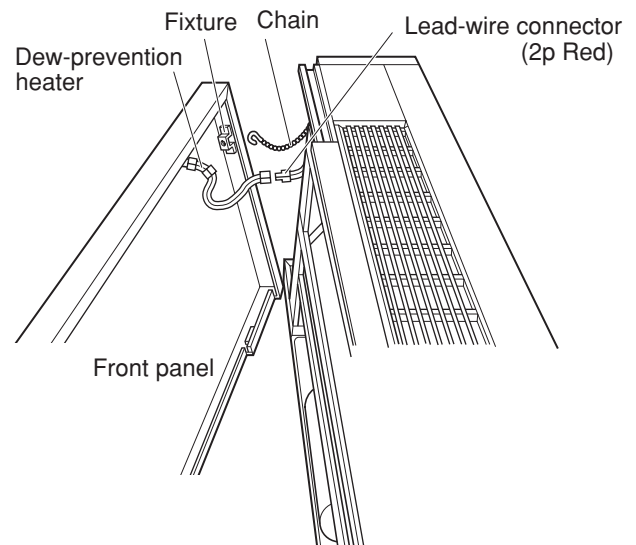

Fig. 3-109
- (4) Remove the chain connecting the front panel of the unit by unhooking it from the fixture attached to the panel. (Fig. 3-109)